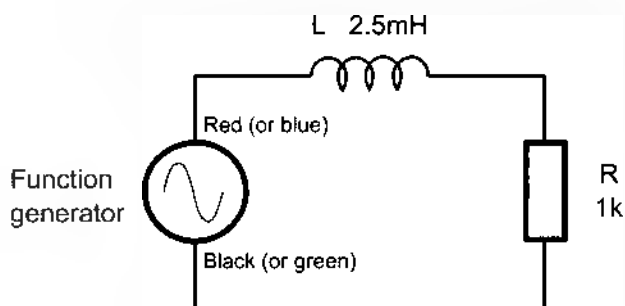

Figure 1
3. Wire the circuit of Figure 1 on the interface panel.